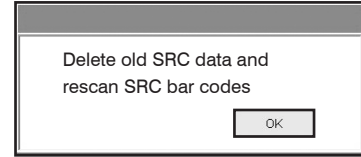

Figure D-1: Delete and rescan SRC message
11. After the hemoglobin calibration, the “Delete Old SRC Data and Rescan SRC Bar Codes” message appears. Tap **OK** to delete the current SRC data for each level (Figure D-1).